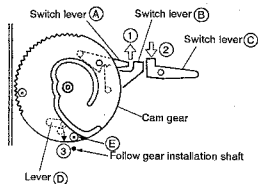

Fig. 9
- Move switch levers (A) and (B) (Fig.9) in the direction of arrow 1 (SW is ON), switch lever (C) in the direction of arrow 2 and lever (D) in the direction of arrow 3.
- ② Install the cam gear when the cam gear comes to the position as shown in Fig. 9.